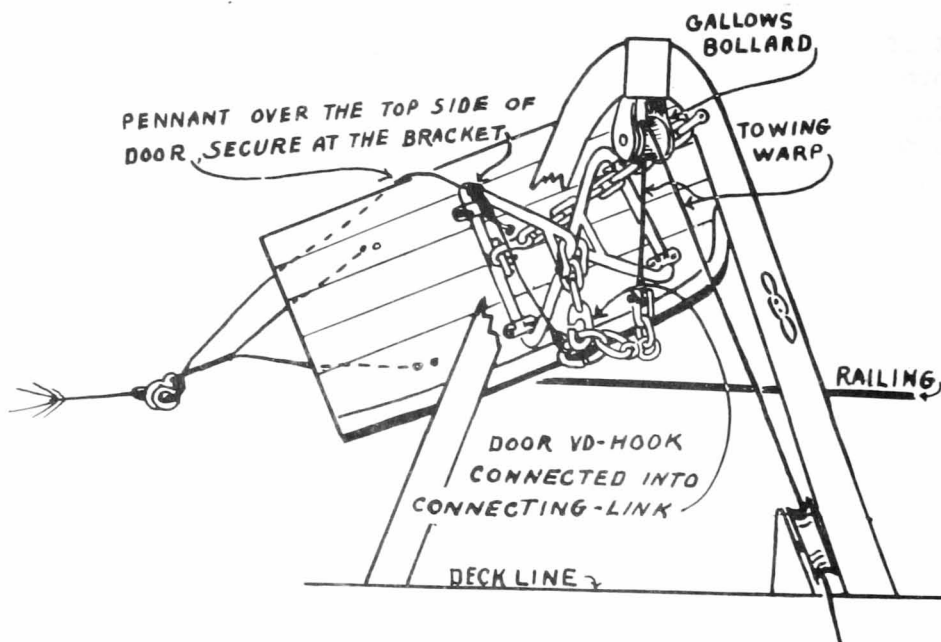

Fig. 5. Port Door Showing Secured Pennant and Connected V-D Hook.
9. The men at the two gallows haul several feet of additional slack on the towing warp and pull on the pennant, or idler, in such a manner that the connecting links pass over the gallows bollard (fig. 5).
10. The connecting link is then connected into the G-hook or VD hook (fig. 5).